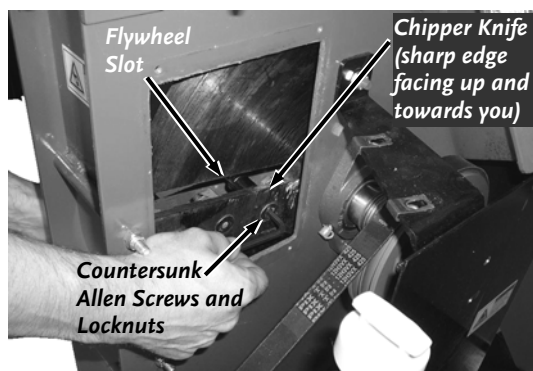

Figure 37
5. Insert a 7/32" Allen Wrench into the head of a screw (**Figure 37**).